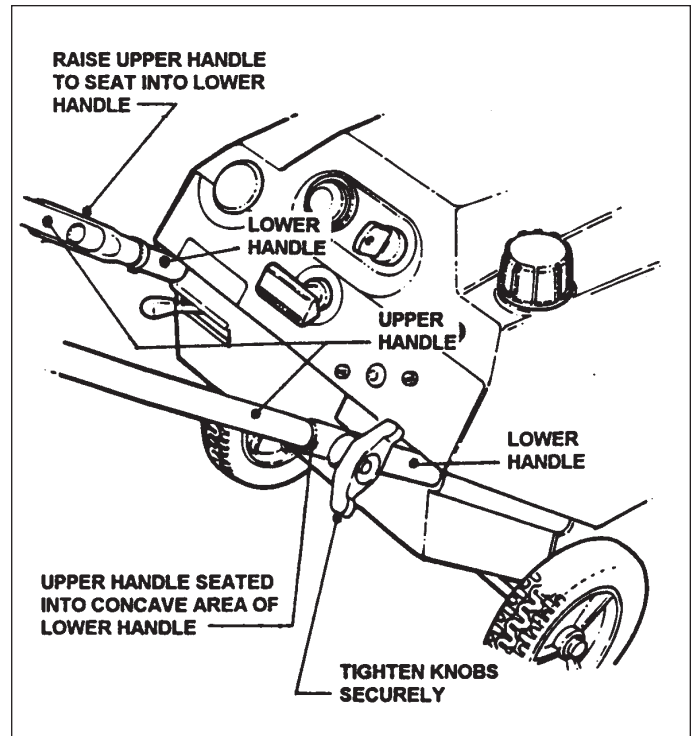

Figure 1. Install Handle Bars
2. The right side upper handle is bolted to the outside of the lower handle for shipping purposes. Unbolt and move the right side upper handle to the inside of the lower handle. Reinstall the bolt and knob. Lift up the folding handle to align it with lower handle and tighten the wing knobs securely as shown in Figure 1.